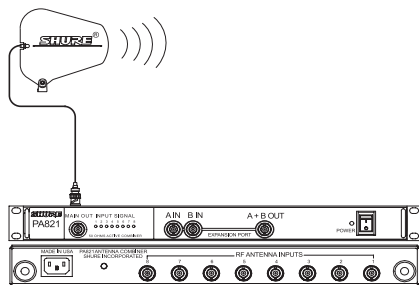

FIGURE 1
2. Attach an antenna to the **MAIN Out** of PA821A. For wideband applications, use PA805SWB directional antenna (Figure 1).
NOTE: When the PA821A is powered on, the input signal indicators (1-8) on the front panel will illuminate if an active transmitter is connected to the corresponding input (1-8) on the back panel (Figure 1).